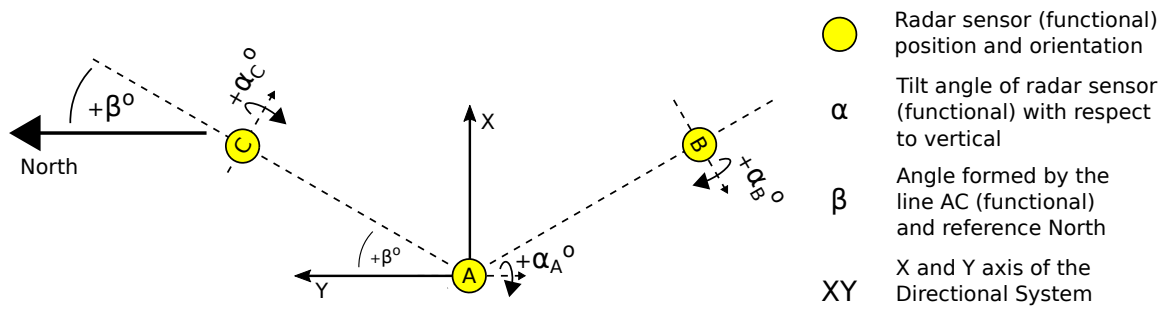
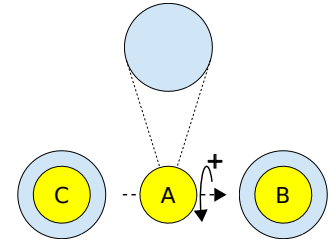

Figure 1.3: Definitions for WaveGuide Direction systems.
Figure 1.7: Top view of the three radars labeled A, B and C.
- When specifying a tilt angle for radar B and C, the tilting direction will be aligned with the position of radar A and the tilt angle will be positive when tilting away from A. (Right hand rule in Fig. 1.3.)
- When specifying a tilt angle for radar A the tilting direction will be aligned with the center between positions B and C and positive in the direction of the center between B and C. (Right hand rule in Fig. 1.3.)
In some cases it can be decided to mount the three radars in line with each other, for example when mounting them to the railing of an offshore platform. This installation is called a line array. In this case the central radar needs to be tilted to obtain a triangular reflection footprint, which is illustrated in Fig. 1.7. In a line array, the tilting definitions (Fig. 1.3) require that radar A is positioned between radar B and C. This allows tilting radar A away from the line B-C and by doing so forming a triangle with the radar foot prints on the water surface. The direction of the radar tilt angle is defined with the right hand rule as shown in Fig. 1.7. It is advised to select non-tilted radar B or C as the "heave source", which is the source of data for calculating the non-directional wave parameters.